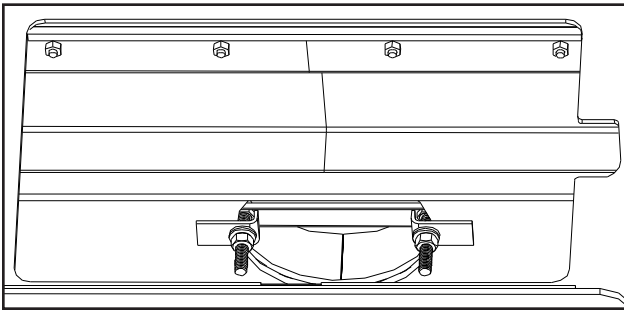

Figure 14: Removable flue collar in place.
- F)** Place the Collar Puller, over the two bolts of the Flue Collar and pull it into place (see Figure 14). Ensure that the bolts are to the left and right of the hole. If they are not, the front secondary air tube will need to be removed in order to install or remove the C-Cast Ceramic Baffles.
- H)** Re-install C-Cast Ceramic Baffles and the rear two (2) secondary air tube (see C-CAST CERAMIC BAFFLE INSTALLATION).